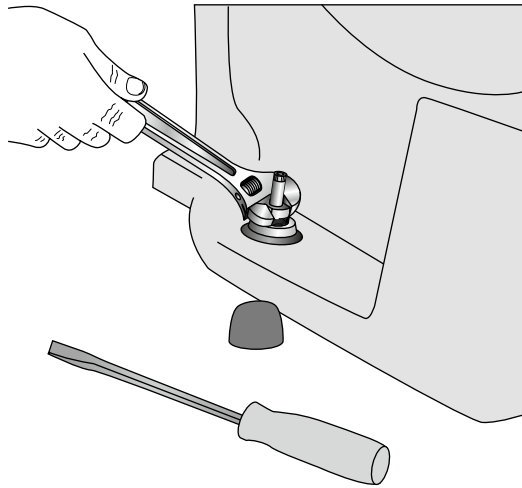

FIGURE 8-6:
3. Unfasten the toilet from the floor. (See Figure 8-6.)